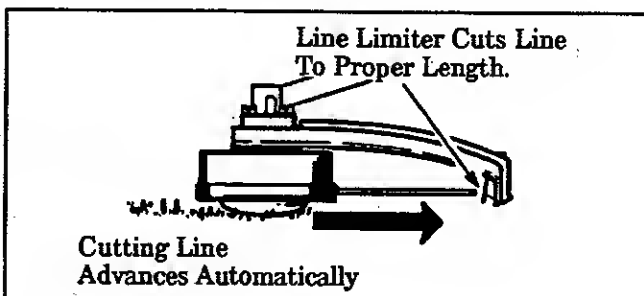

Figure 16
- Always keep the shield in place when the tool is being operated. Figure 16.